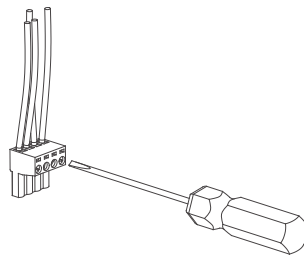

FIGURE 12:
8. Strip approximately .1875" (5mm) of the insulation off each wire. Insert the wire into the correct square opening on the connector. Use a small flat head screwdriver to tighten the corresponding screw to secure the wire (see figure 12).